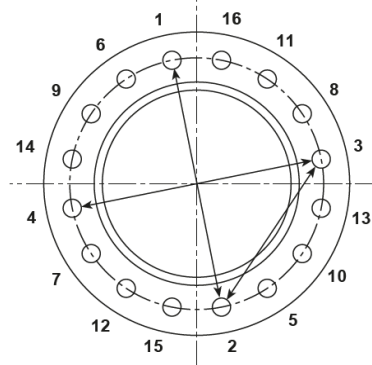

Fig. 16
**4.3.** Retighten the bolting on all gasket joints after the heat exchanger has reached operation temperatures to prevent leaks and gasket failures. Retightening should be done uniformly and in a diametrically staggered pattern as illustrated in Fig. 16 and in compliance with Section 5.6 'Bolting'.
The tightening must be done evenly operating on diametrically opposite bolts as illustrated in Fig. 16.